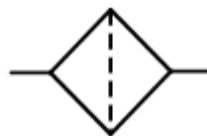

FIG 5.
B. The symbol for a filter only is shown in Fig 5.